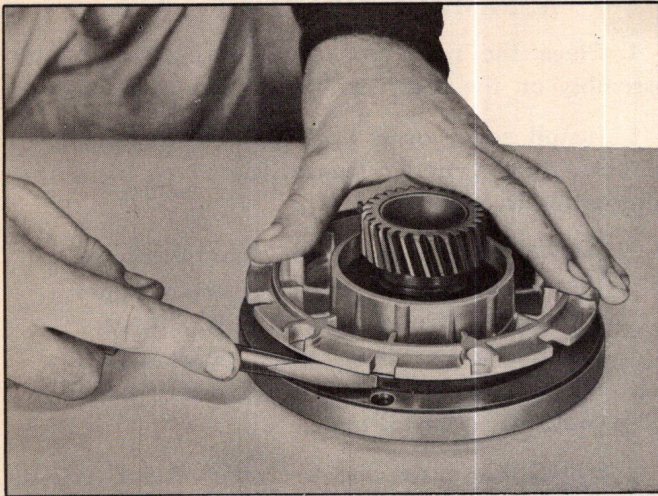

Fig. 241—Installing Annular Piston
10. Install piston into clutch drum resting on outer rubber seal. Align square notches in piston with holes in drum. While applying slight hand pressure to piston, guide seal into bore with the flat side of a blunt screw driver (Fig. 241).